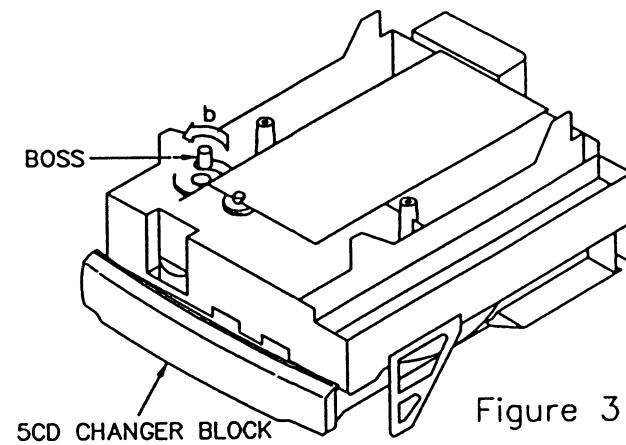

Figure 3
(figure 3)
- 1) Push the PLATE GEAR'S Boss at the bottom part of CHAS MECHA strongly to the outside (arrow “b” direction). (figure 3)